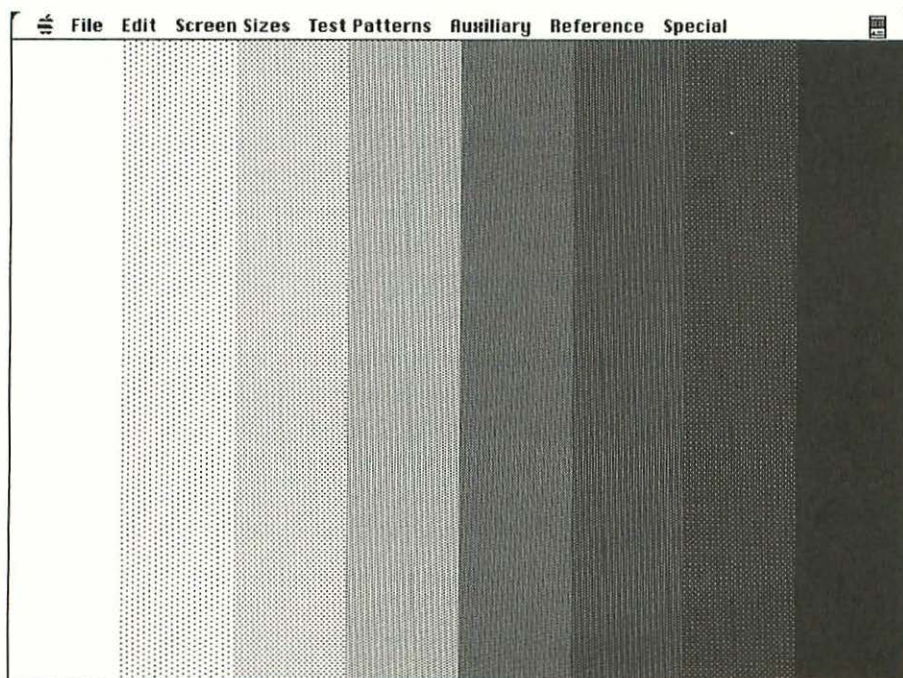

Figure 3-16 The Gray Bars test pattern displays eight system patterns, in ascending order from white-to-gray-to-black.
3. Choose Gray Bars (Apple-Option-P) from the Test Patterns menu. As shown in Figure 3-16, this test displays eight system patterns, in ascending order from white-to-gray-to-black. If the white balance is adjusted properly, there shouldn't be the slightest hint of color; you shouldn't see any red, green, or blue shades in any of the bars.
12. Choose Gray Bars from the Test Patterns menu. As shown in Figure 3-16, this test displays eight system patterns, in ascending order from white-to-gray-to-black. If the white balance is out of adjustment, the middle bars will be tinted red, green, or blue. Identify the tint color.